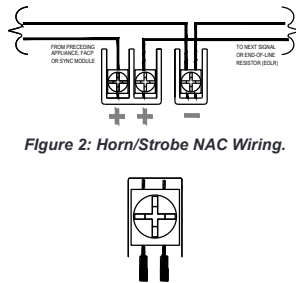
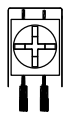

Figure 2: Horn/Strobe NAC Wiring.
Figure 3: Wire Connection
- Break all in-out wire runs on supervised circuits to ensure integrity of circuit supervision as shown in Figure 3. The polarity shown in Figure 2, the wiring diagram, is for the operation of the appliances. The polarity is reversed by the FACP during supervision.
3. Pre-Wire: Connect field wires to terminals on mounting plate (Reference Figure 2 and 3). Use care and proper techniques to position the field wires in the backbox so that they use minimum space and produce minimum stress on the product. This is especially important for stiff, heavy gauge wires and wires with thick insulation or sheathing. When terminating field wires, do not use more lead length than required. Excess lead length could result in insufficient wiring space for the signaling appliance.